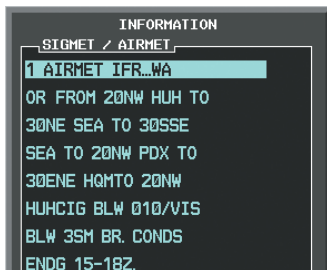

Figure 6-23 Sample SIGMET Text
- 1) Select the Weather Data Link (XM) Page.
- 4) Press the **ENT** key. Figure 6-23 shows sample SIGMET text.